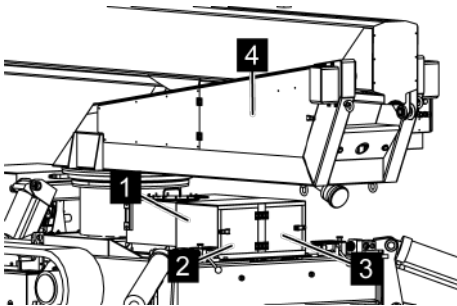

Fig. 125: Shuttle valve cover
2. ➤ Open doors (Fig. 125/2 and 3) or completely and remove the cover (Fig. 125/1).
For platform operation, the doors (Fig. 125/2 and 3) must remain closed.
3. ➤ Open the door (Fig. 125/4).